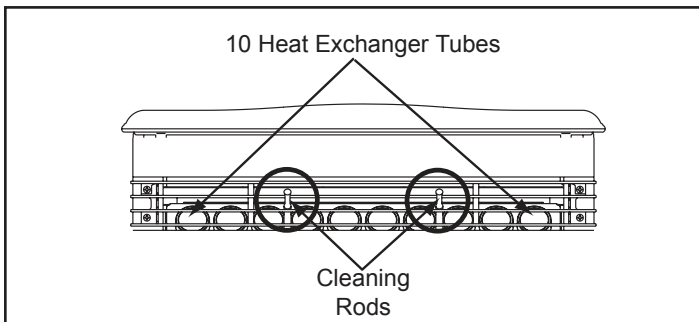

Figure 13.1
- Locate the 2 exposed rods directly underneath the heat exchanger tubes. **Figure 13.1.**